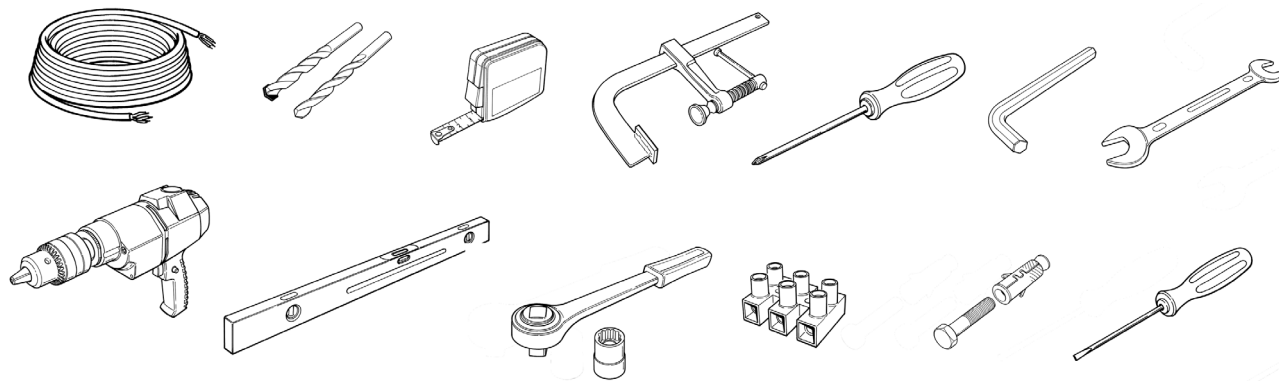

Figure 12
**Make sure you have all the tools and materials needed to install the system; make sure that they are in good condition and serviceable according to current safety standards. See examples in figure 12.**